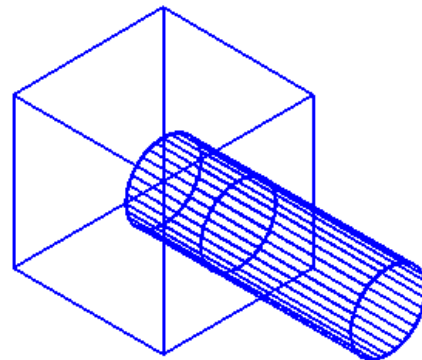

Figure Step 11
Step 11 Set the current view to SE Isometric and the current visual style to 3D Wireframe. Enter the INTERFERE command, as shown below, to find the interfering solid. (Figure Step 11)